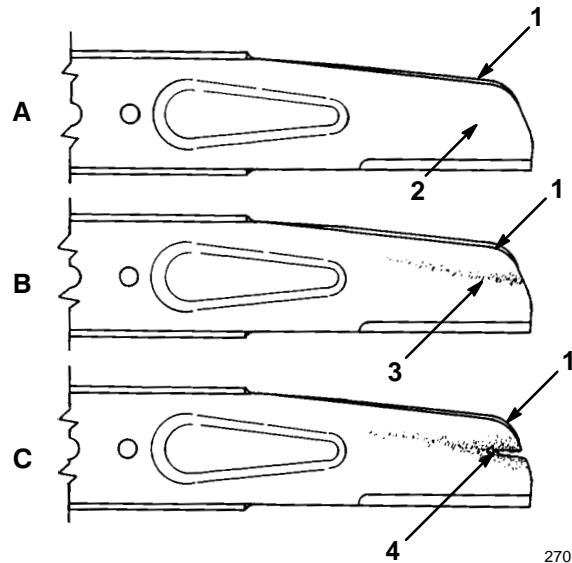

Figure 21
2. Tip mower on its side (Fig. 21).